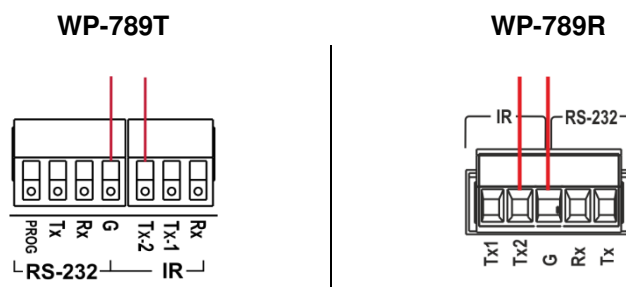

Figure 10: Connecting IR Emitter – Wide-Range Modulated
- Connect the emitter wires to the **WP-789T** or **WP-789R** IR terminal block as illustrated in \(Figure 10\).